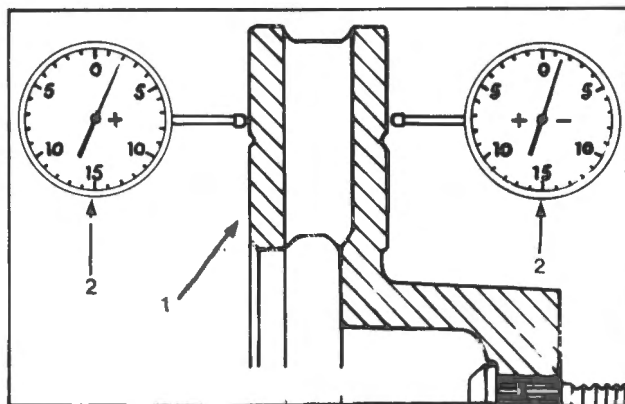

Fig. R-21
- 3 Run out of the brake disc can be measured 'on the vehicle' and must not exceed 0.102 mm (0.004 in) at a radius of 113.350 mm (5.250 in). Fig. R-21.